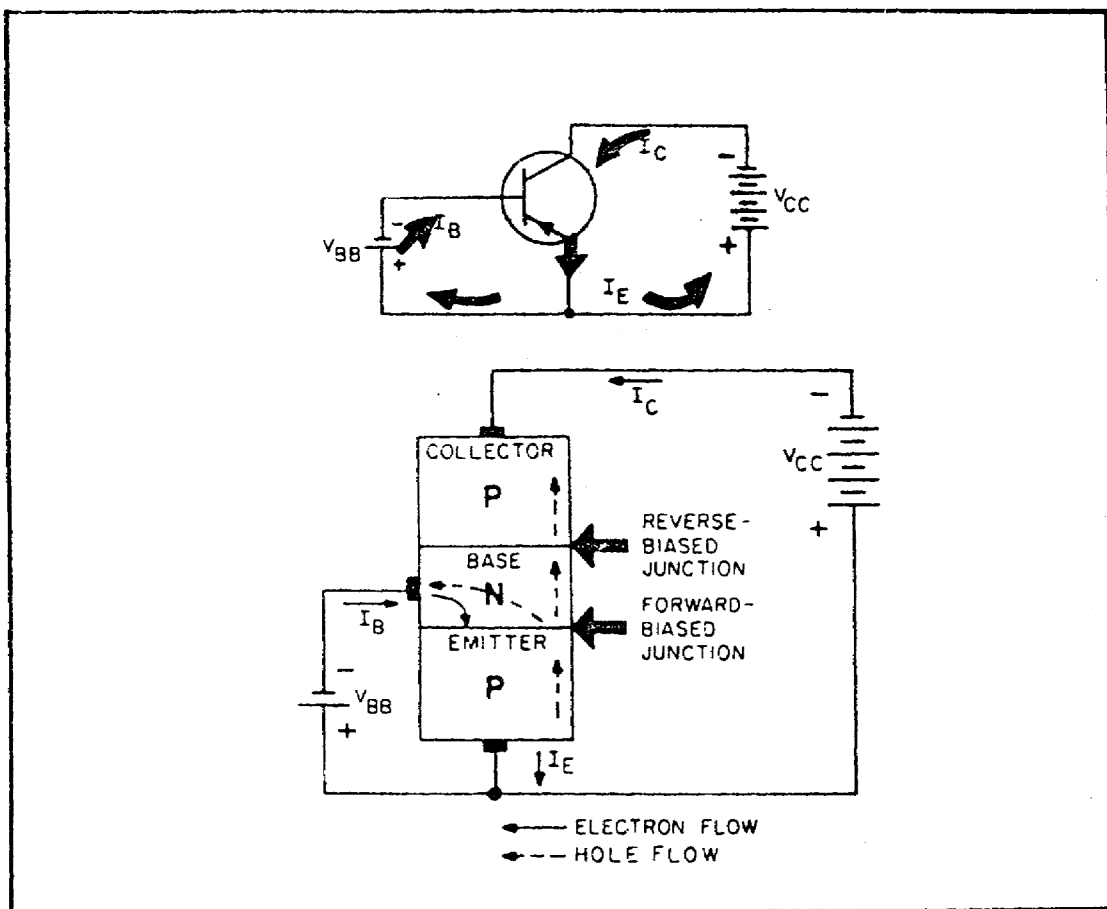

FIGURE 95. PNP TRANSISTOR OPERATION.
(3) *PNP Junction Interaction.* The interaction between the forward- and reverse-biased junctions in a PNP transistor is very similar to that in an NPN transistor, except that in the PNP transistor, the majority current carriers are holes. In the PNP transistor shown in figure 95 on the following page, the positive voltage on the emitter repels the holes toward the base. Once in the base, the holes combine with the base electrons. However, the base region is made very thin to prevent the recombination of holes with electrons. Therefore, well over 90 percent of the holes that enter the base become attracted to the large negative collector voltage and pass right through the base. However, for each electron and hole that combine in the base region, another electron leaves the negative terminal of the base battery (V_{BB}) and